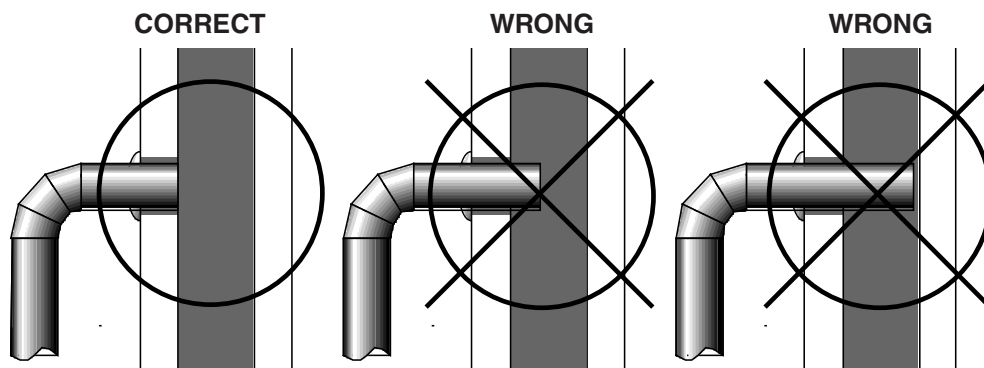

Fig. 14 - Stovepipe/Flue Connections
4. Connector pipe cannot extend into the chimney flue (figure 14).
5. Secure pipe/elbow sections with three (3) sheet metal screws at each joint to make the piping rigid.
1. The connector stovepipe may be pushed into the chimney too far, stopping the draft (figure 14, page 13).
3. If the fire burns well but sometimes smokes or burns slowly, it may be caused by the chimney top being lower than another part of the house or a nearby tree. The wind blowing over a house or tree falls on top of the chimney like water over a dam, beating down the smoke. The top of the chimney should be at least three (3) feet above the roof and be at least two (2) feet higher than any point of the roof within ten (10) feet.